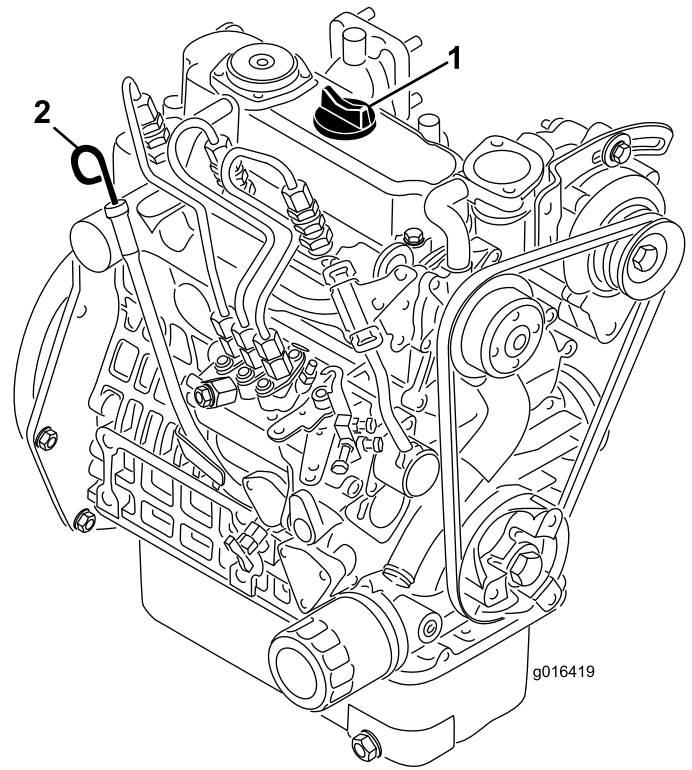

Figure 23
2. Remove the dipstick and wipe it with a clean rag (Figure 23). Push the dipstick into the tube and make sure it is seated fully. Remove the dipstick from the tube and check the level of oil. If the oil level is low, remove the filler cap from the valve cover and **slowly** add enough oil to raise the level to the Full mark on the dipstick. Add the oil slowly and check the level often during this process. **Do not overfill.**